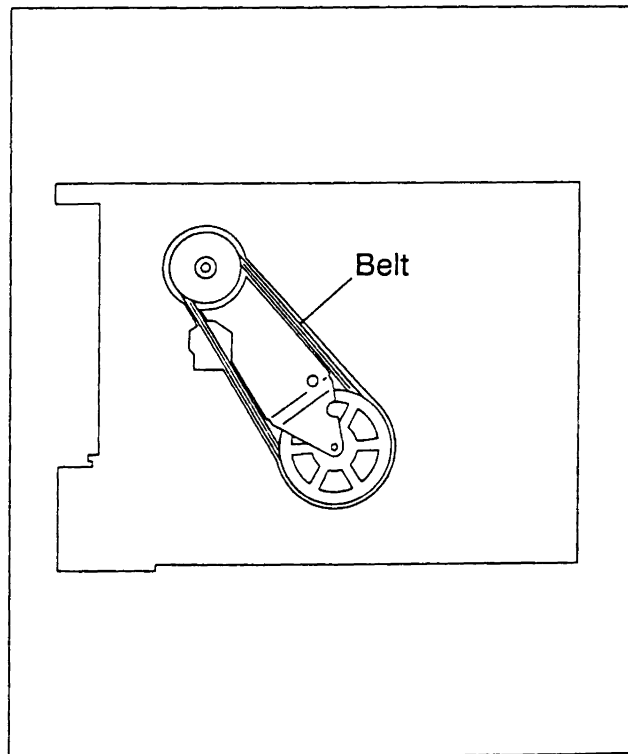

Fig.2-5-10
- (1) Take out 1 slit washer, then remove the lever assy.
- (2) Engage the belt(capstan motor) from bottom of mechanism assy first as indicated in Fig.2-5-10.